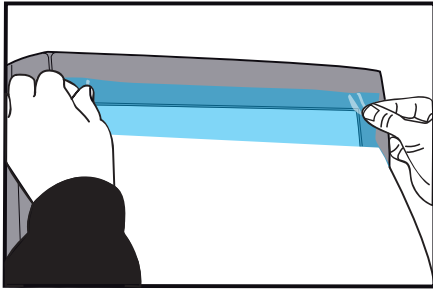

Figure 11
- › Remove approximately 10 cm (4 in.) of the liner and stick the film on the edge of the screen. (FIG. 11)